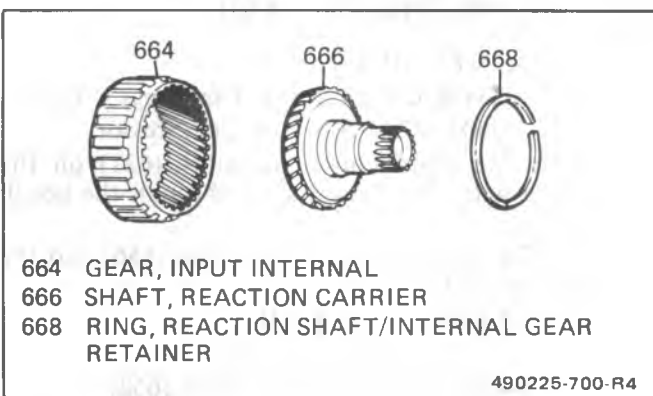

Figure 84 Input Internal Gear and Reaction Shaft
**Install or Connect (Figures 84, 86 and 87)**
1. Reaction shaft (666) into the input internal gear (664)
2. Retainer ring (668) into the input internal gear gear (664)
4. Thrust Bearing (663) onto the reaction carrier shaft.
5. Output shaft (687) into the transmission
6. J-29837 onto the case (10)
- position upwards as far as possible to support the output shaft (687).